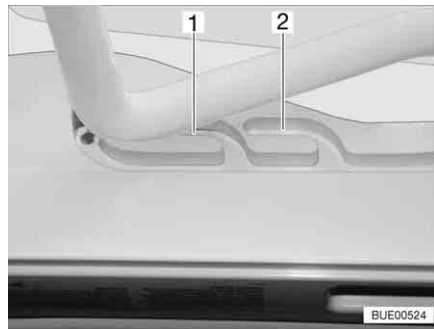
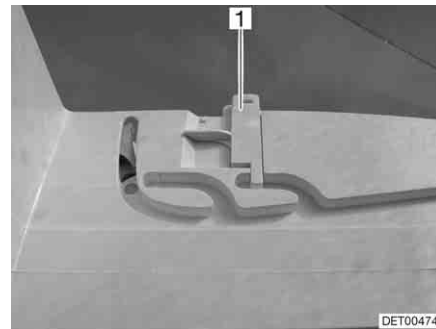

Fig. 78 Heki skylight in ventilation position
Fig. 79 Ventilation position locking mechanism
The Heki skylight can be put in two ventilation positions: Bad weather position (Fig. 78,1) and central position (Fig. 78,2). Depending on the model, the skylight can be locked in the central position with the latch (Fig. 79,1).
- Push the bar slightly upwards and into the selected guide (Fig. 78,1 or 2) and lock if necessary.